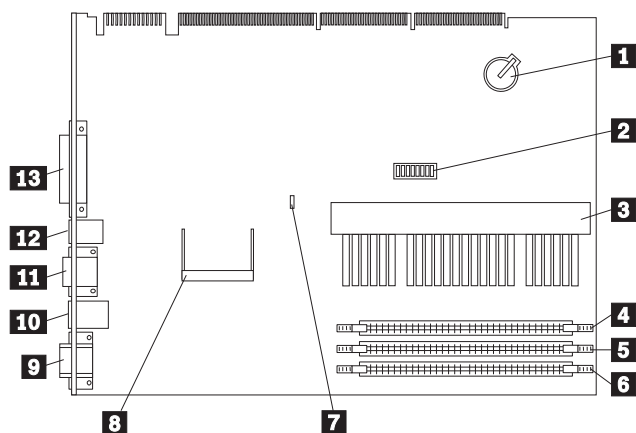

Figure 2. 6275 System Board
Figure 2 on page 6 shows the locations of components and connectors on the current system board. Note that the locations of system board components could change with different system boards.
- \_\_\_ 2. Refer to Figure 2 on page 6 and locate the DIMM sockets **4**, **5**, and **6** of Network Node Processor system board.